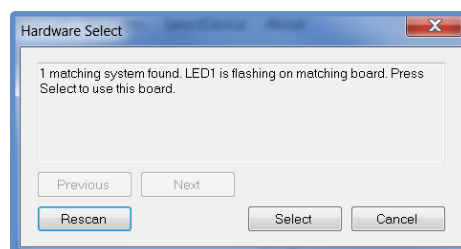

Figure 9. Hardware Select Window, Select Option Enabled
3. After LED1 illuminates, click **Rescan** in the **Hardware Select** window. LED1 starts blinking, and the **Hardware Select** window updates with an option to select the device (see Figure 9).